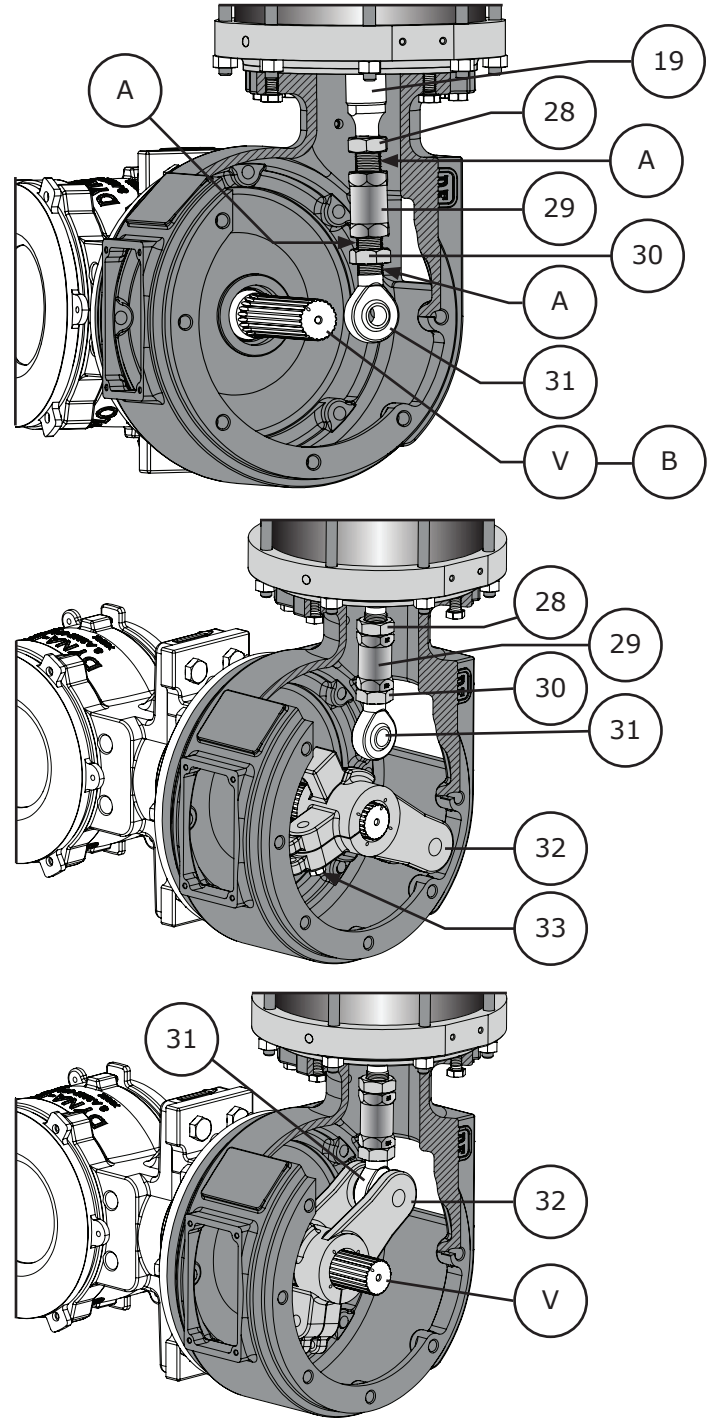

Figure 25 Lever Installation
- 3 Thread the turnbuckle (Key 29) onto the piston rod (Key 19) until the turnbuckle makes contact with the hex nut (Key 28). Refer to Figures 25 and 6 for turnbuckle examples.
- 5 Thread the rod end bearing (Key 31) into the turnbuckle (Key 29) until the hex nut (Key 30) makes contact with the turnbuckle. Refer to Figure 25 and 5.
- 6 Lubricate the teeth of the valve shaft spline with Lubriplate® MAG-1 Lithium Grease (Key B). Refer to Figure 25.
- 9 Connect the lever (Key 32) to the rod end bearing (Key 31), rotate the lever or move the piston rod (Key 19) as necessary. Refer to Figure 25 and 9: